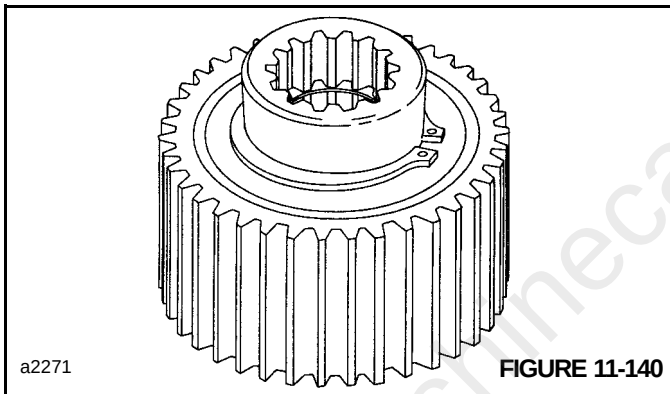

FIGURE 11-140
6. Turn the assembly over with the snap ring down. Install the second retainer and snap ring (Figure 11-140). Make sure the snap ring is properly seated in the groove.